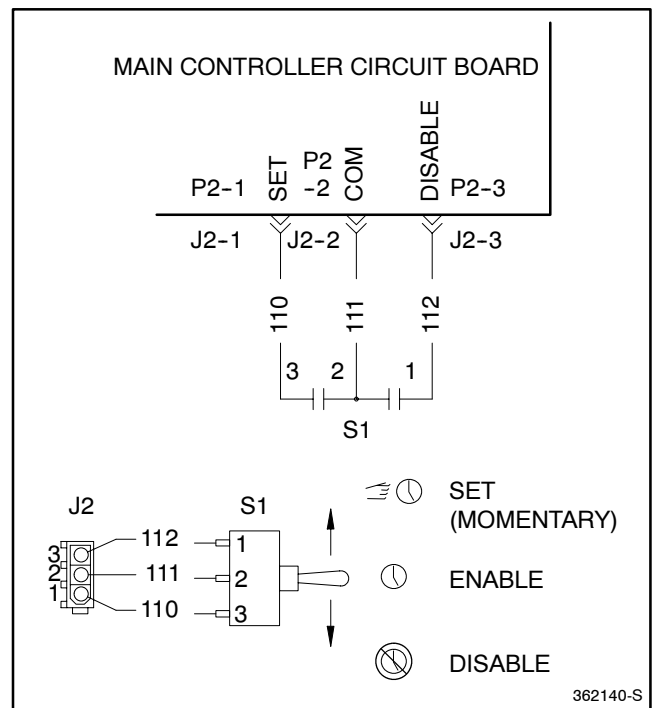

Figure 4-4 Exercise Circuit
Within the exerciser switch there are two normally open contacts which are both open when in the maintained Enable position. When the switch is in the momentary Set position, the contact from terminal COM to SET on the main controller circuit board is closed. When the switch is in the maintained Disable position, the contact from terminal COM to DISABLE on the main controller circuit board is closed. See Figure 4-4.
4. Check that connector J2 is wired to the correct terminals on the exerciser switch according to Figure 4-4.